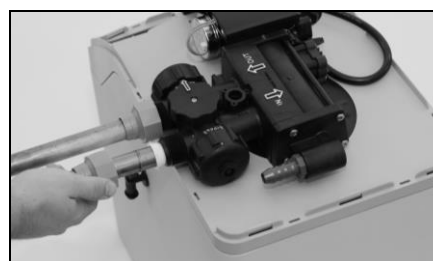

Figure 7: Connect Water Lines (Shown with Bypass Valve)
- C. Attach the water lines to the appliance in compliance with all state and local, building, plumbing, and electrical codes. See Figure 7. Do NOT over tighten the connections on the plastic threads.